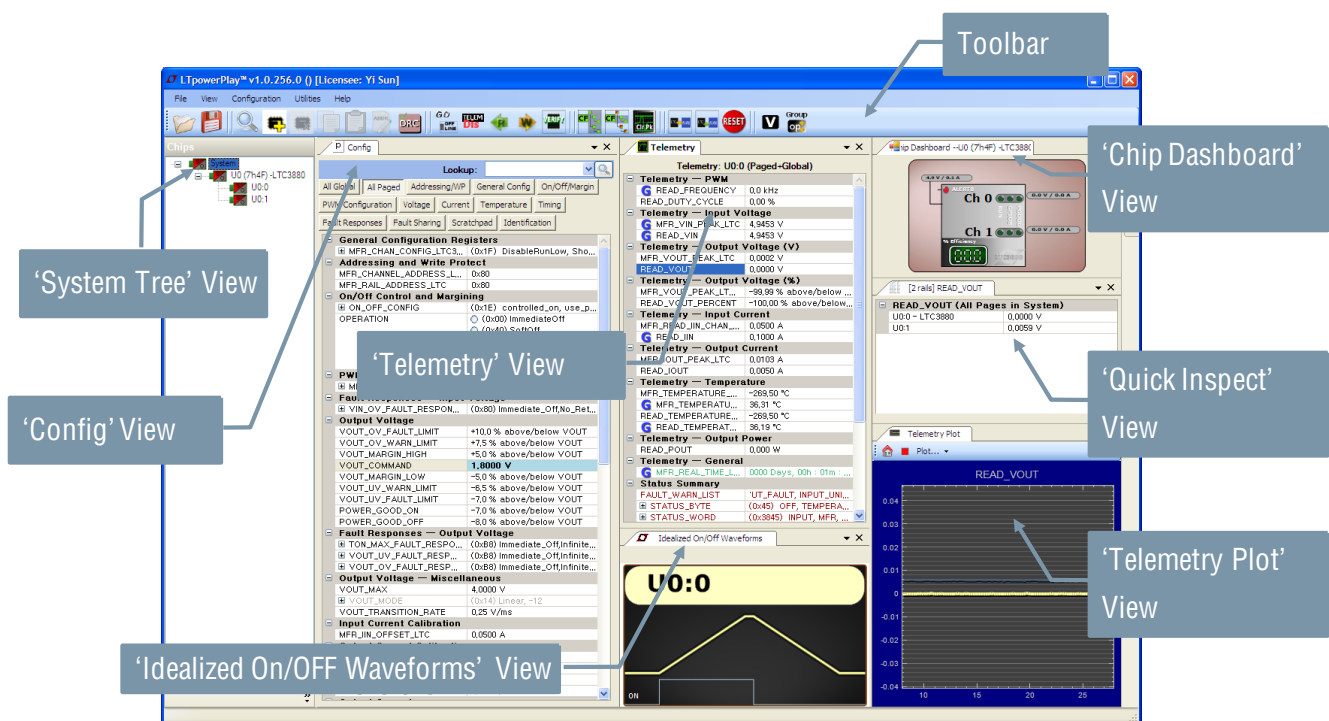

Figure 4. LTpowerPlay Interface of Programming the LTC3886
6. On your PC, launch LTpowerPlay. LTpowerPlay will identify the DC2277A and launch the appropriate GUI. See Figure 4.